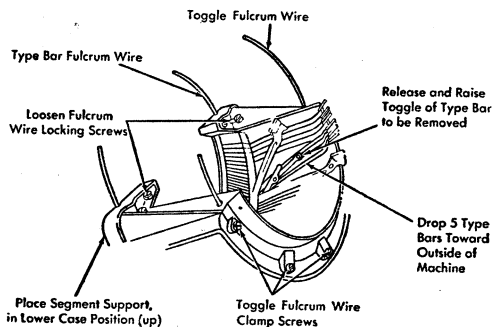

Figure 4. Type Bar Removal
1. Shift the segment support to the small letter position. Loosen the type bar fulcrum wire stop-screws and the toggle fulcrum wire clamp plate-screws (Figure 4).